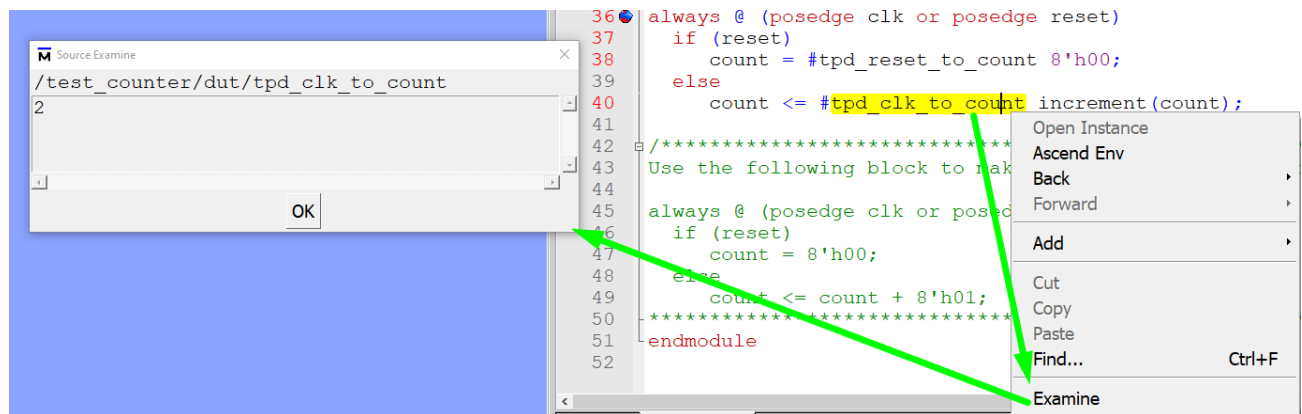

Figure 23
- Highlight a signal, parameter, or variable in the Source window, right-click it, and select **Examine** from the pop-up menu to display the variable and its current value in a Source Examine window (Figure 23).